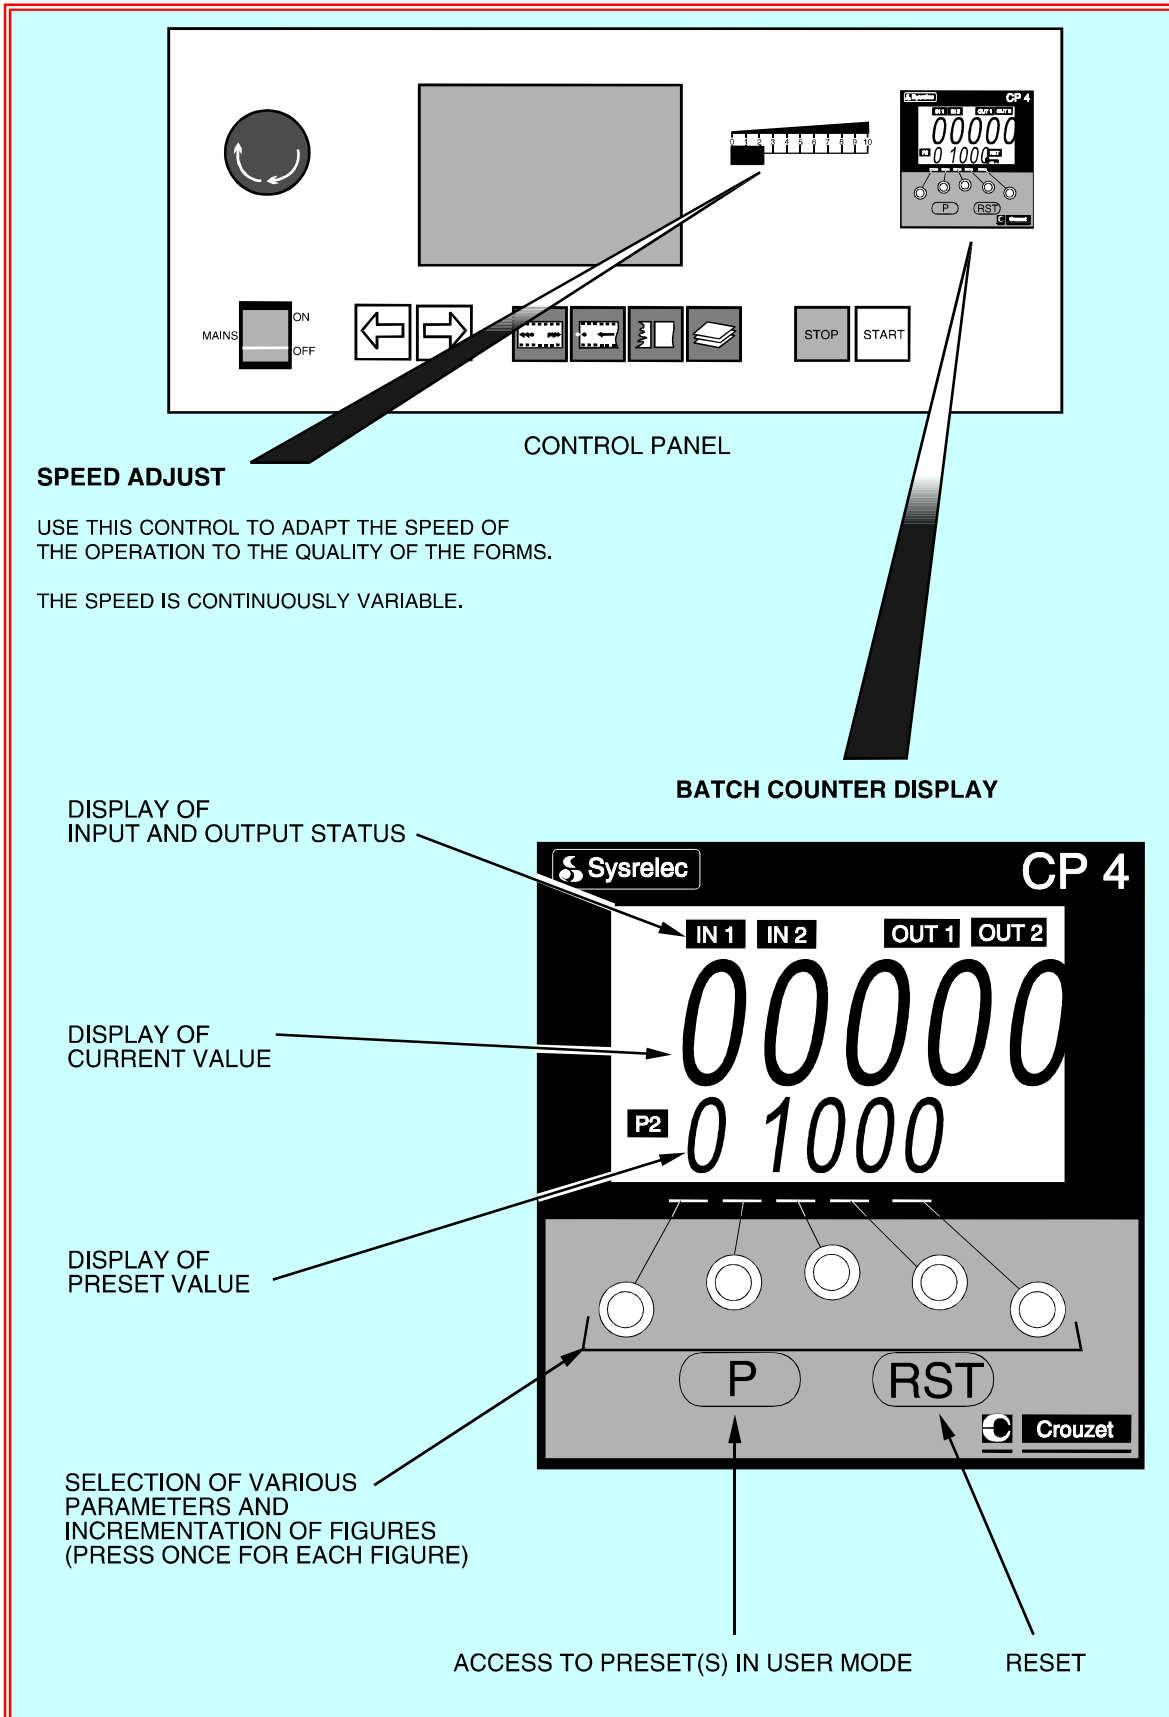

Fig 3.4 Summary of Controls - Batch Counter
- Set the batch counter as required (see Figs 3.4 and 3.5). A pause facility has been incorporated to allow automatic batching of form sets without the need for operator intervention.